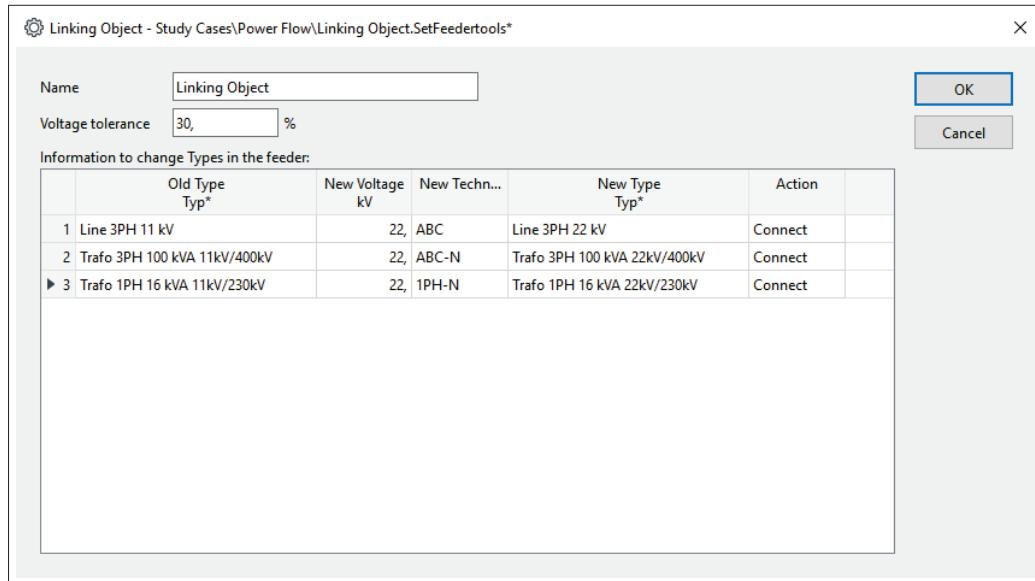

Figure 15.6.3: Linking Object
- Prompt for new type selection: the user should manually select which type should be used. If the selected type is still not valid (see item 7: Validation rules for types), the program will present new options: (i) the user can select a new type again, (ii) ignore replacing this type, or (iii) interrupt algorithm execution. Otherwise, if the selected type is valid (see item 7: Validation rules for types), the existing record in Linking Object is updated or in the event that it does not exist, a new one will be created.
An example of a *Linking Object* is shown in Figure 15.6.3. The voltage tolerance (parameter *vto1*) for comparison between type voltage and new voltage can be optionally specified. The default value is 30 %. Records in *Linking Object* should be unique for each combination of Old Type, New Voltage and New Technology. Validation rules (see item 7) are applied when the user presses the **OK** button or/and automatically (i.e. within the algorithm).